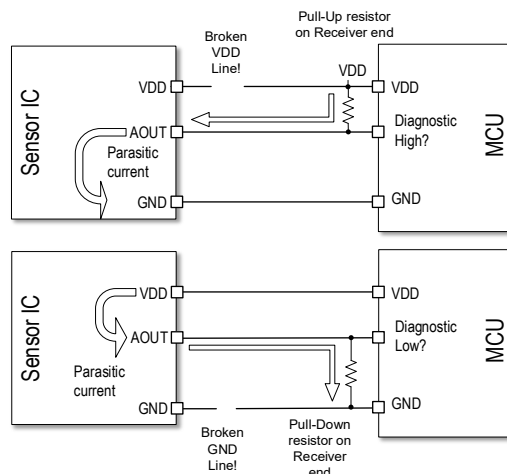

Figure 28. Parasitic Currents on Analog Outputs with Broken VDD or Broken GND Lines
Most broken supply, broken GND, or analog output signal connection errors can be detected by monitoring the DC voltage levels at the analog output pin AOUT, see the uncritical error cases on Figure 28. If a diagnostic error or broken signal wire occurs, the DC voltage level at the affected pin is pulled into the diagnostic range (diagnostic high: $V_{OUT} > 95\% V_{DD}$ or diagnostic low: $V_{OUT} < 5\% V_{DD}$) through the external pull-up/pull-down resistors.
- a broken VDD supply wire with external pull-up resistors at the receiving end, see Figure 28.
- a broken GND wire with external pull-down resistors at the receiving end, see Figure 28.